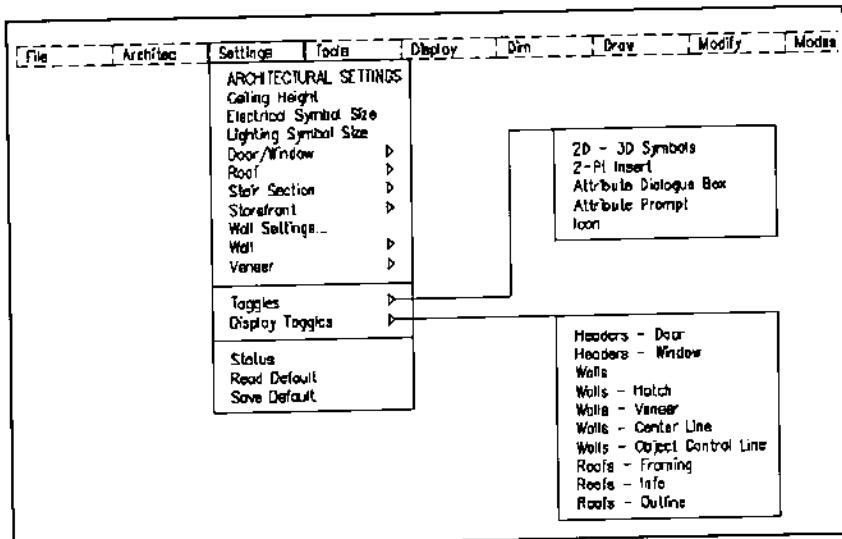

Figure 4.
1. The Settings menu controls Ceiling Height, Electrical symbol size, and Lighting symbol size, as shown on the Architectural Settings menu in Figure 4.
2. The Toggles submenu on the Settings menu controls 2D-3D symbols, 2-Point Insertion, Attribute Dialogue boxes, and Attribute Prompting, as shown on the submenu in Figure 4.